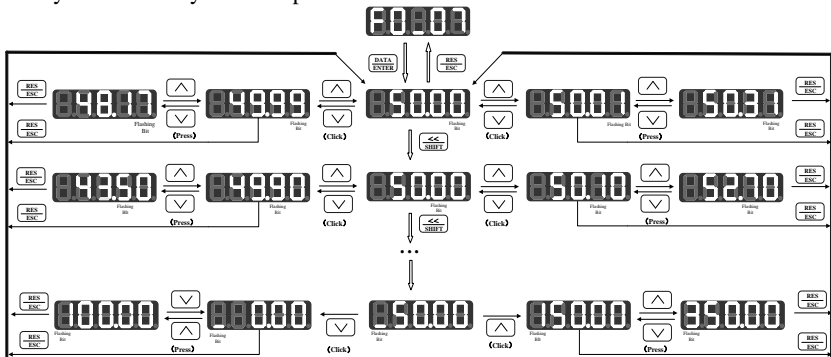

Figure 4-5 Procedures of Editing Parameter
- Follow the viewing procedures to enter the function code first, and then edit the parameter as per the procedures shown in Figure 4-5.
CLICK in Figure 4-5 refers to press the button once and release it very quickly.
PRESS in Figure 4-5 refers to press the button for a long time to edit the parameter.